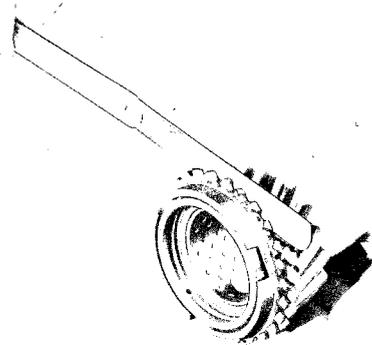

Fig. 7-10 Checking synchronizer ring
2. Inspect the synchronizer ring for wear. To check the wear of the synchronizer ring, fit the synchronizer ring evenly to the gear cone and measure the clearance between the side faces of the synchronizer ring and the gear with a feeler gauge, as shown in Fig. 7-10. If it is less than **0.8 mm (0.031 in)**, replace the synchronizer ring or gear. The standard clearance is 1.5 mm (0.059 in).